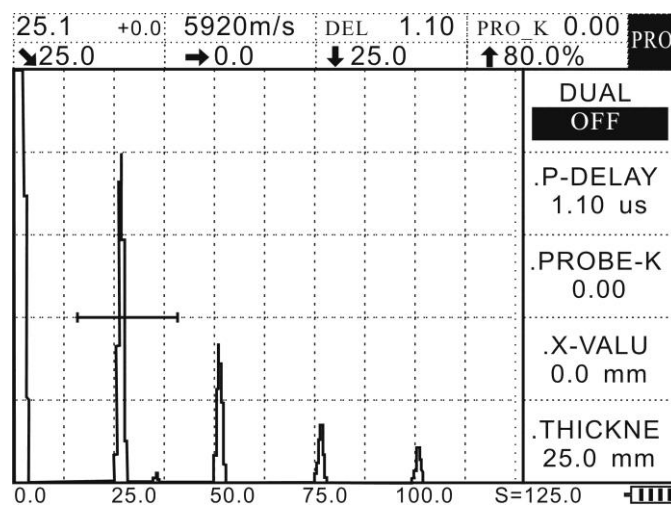

Figure 4-3
4. Set Gate A to 100.0 reach 80% of the screen. The sound path value is displayed on the screen. If the vertical sound path is not 25mm, press **PROBE**, then press **▲** (up) or **▼** (down) to select the probe zero submenu. Then press **▶** (right) to adjust the value till the vertical sound path is 25mm. At this point, the probe zero is the zero after calibration, as shown in Figure 4-3.